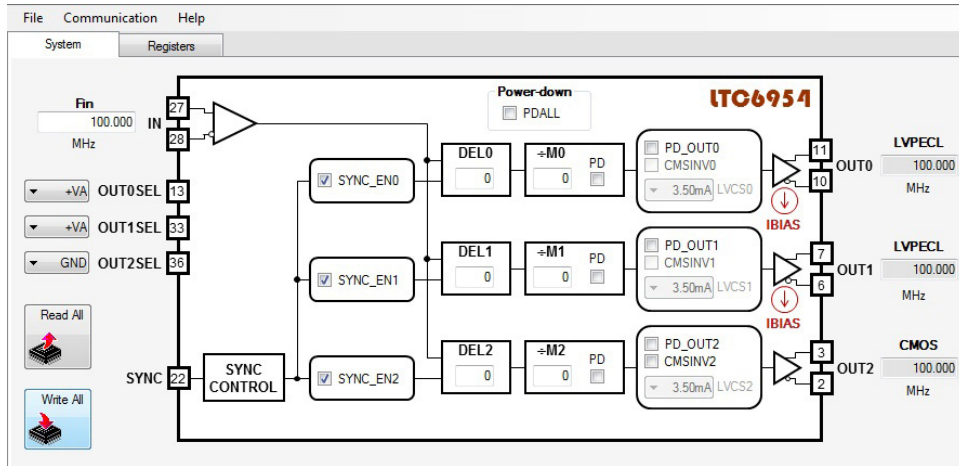

Figure 5. LTC6954-2 Settings
- c. Select LTC6954 settings shown in Figure 5